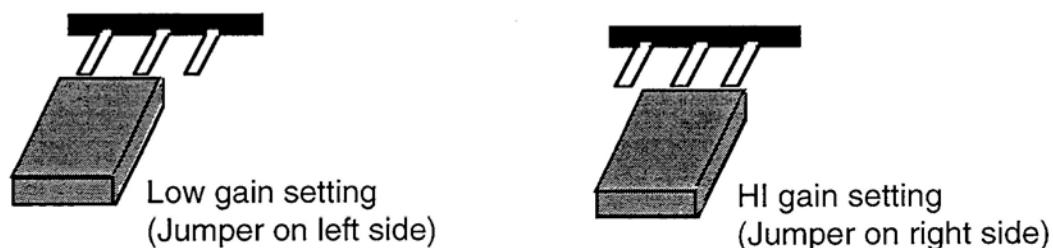

Figure 3-8. Jumper position for low gain and high gain
3. Start with the left strain link. The gain potentiometer (R17) on top (in line with the left strain link connector TB6) adjusts the gain for this strain link. First take a look at the jumper (J6) above R17 (see Figure 2-2 for exact location). It should be set to the left (in other words, the right pin of the jumper connections will not be covered by the jumper block). See Figure 3-8. This jumper setting is the *low gain* setting. If necessary, you will need to move the jumper to the *high gain* setting later. For now, make sure the jumper is at the low gain setting.
If you reach the end of the adjustment (tonnage display will not change anymore) and the tonnage is still less than the tonnage on your calibration unit, you must set the jumper described in Step 3 to *high gain*. First turn power to AutoSet off. Pull the jumper straight out and place it over the right and center pins. See Figure 3-8. Turn power on and cycle the press.